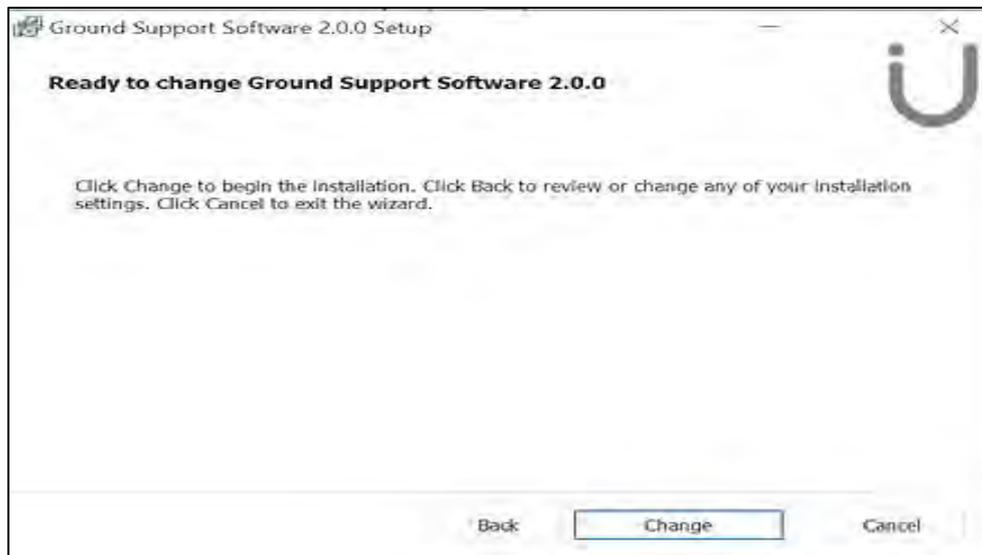

Figure 3-5 Ready to change
- (a) Select Change on the Ready to change Screen (**Ref Fig 3-5**).